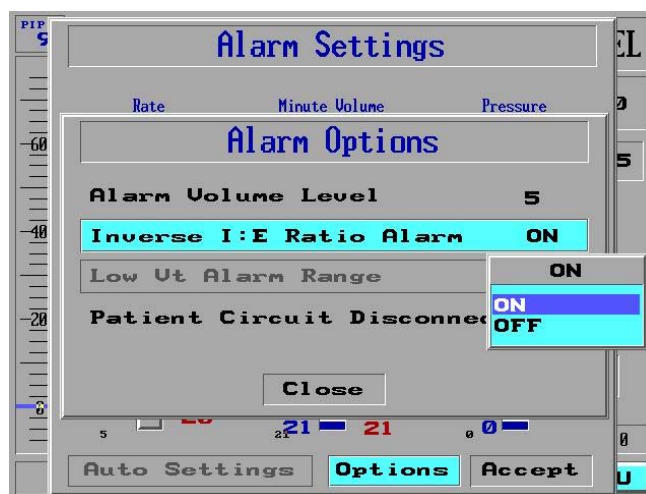

Figure 144: The Inverse I:E Ratio Alarm Selection Menu Pop-Up Window
- Press the knob. An **ON/OFF** selection pop up window appears (Figure 144).